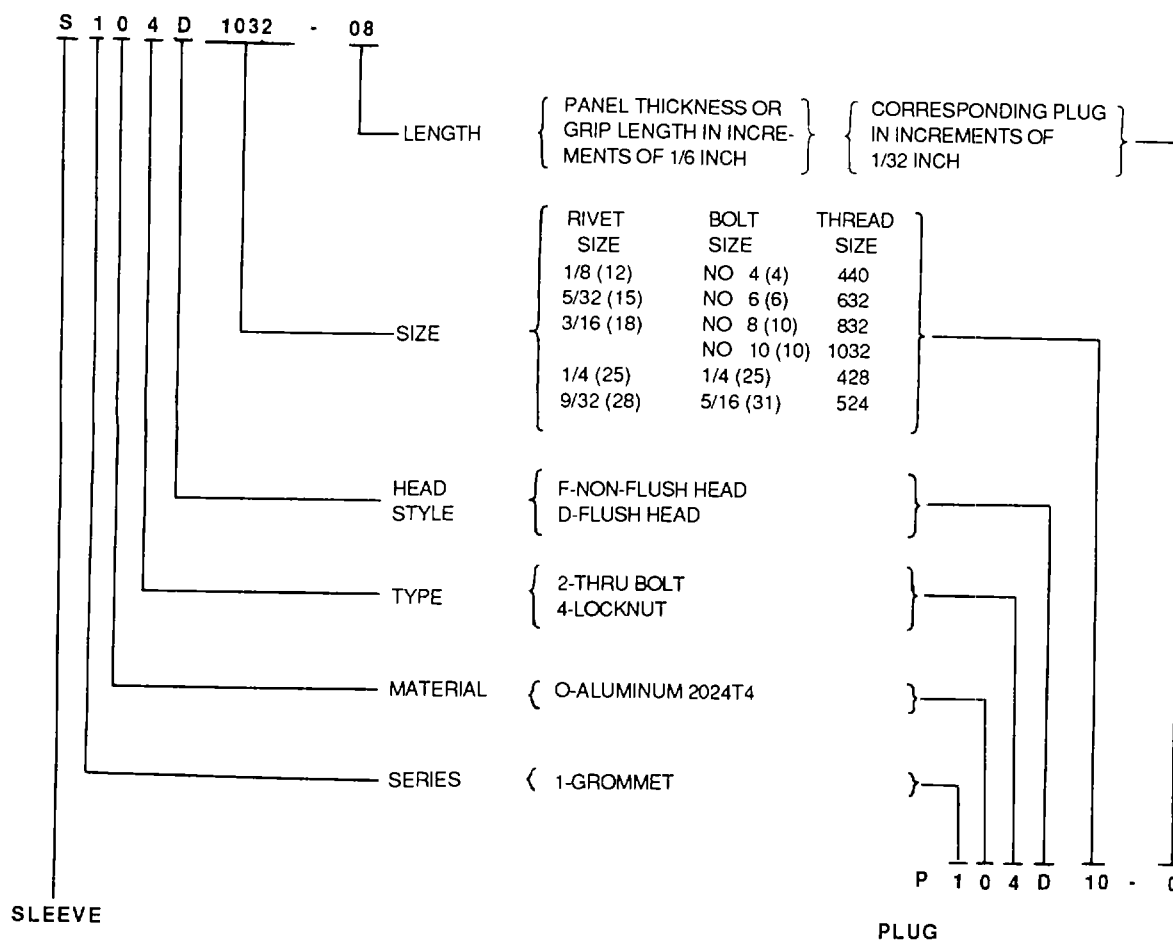

Figure 2-68. Spacer Part Number Breakdown
- a. **Spacer Identification.** The spacer shown in figure 2-67 is a two-piece spacer consisting of a plug and a sleeve fabricated from aluminum. The commercial method of numbering the types and sizes of sleeves and plugs is shown in figure 2-68.